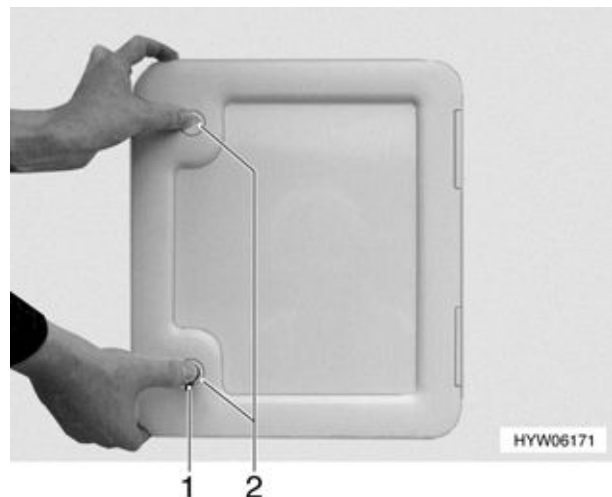

Fig. 166 Opening the Thetford flap
The flap for the Thetford cassette (Fig. 166) is located on the outside of the motorhome:
- Open the rotary lock (Fig. 166,1) with the key.
- Press both push-button locks (Fig. 166,2) at the same time and open the Thetford cassette flap.